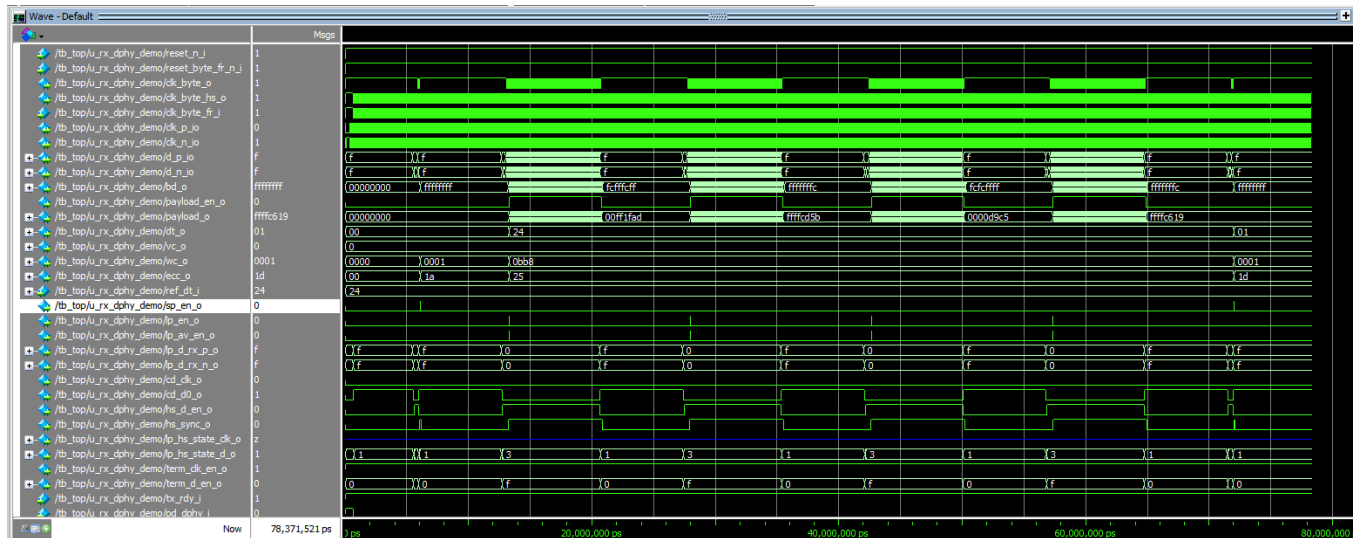

Figure 6.7. Simulation Waveform
- The waveform in Figure 6.7 shows an example simulation result.